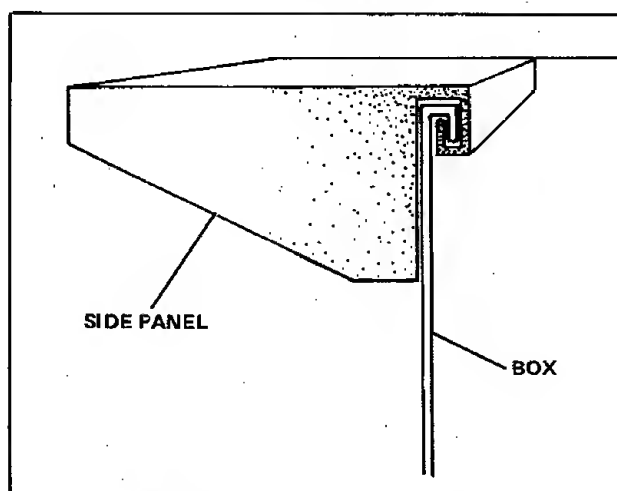

Figure 19. Installing Side Panels
2. Starting at the rear, slide a side panel onto the side of the cart so that the lip on the box side is inside the curl of the side panel. (See figure 19). Slide the side panel all the way to the front of the box. Put the other side panel on in the same manner.